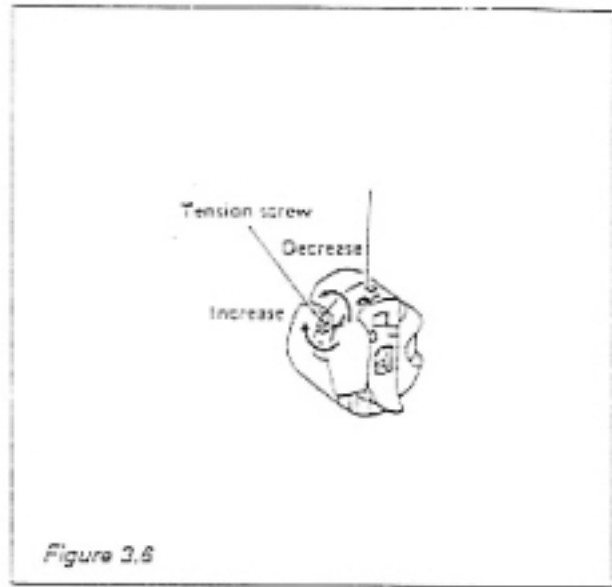

Figure 3.6
**3.7 Lower Thread Tension (Figure 3.6)**